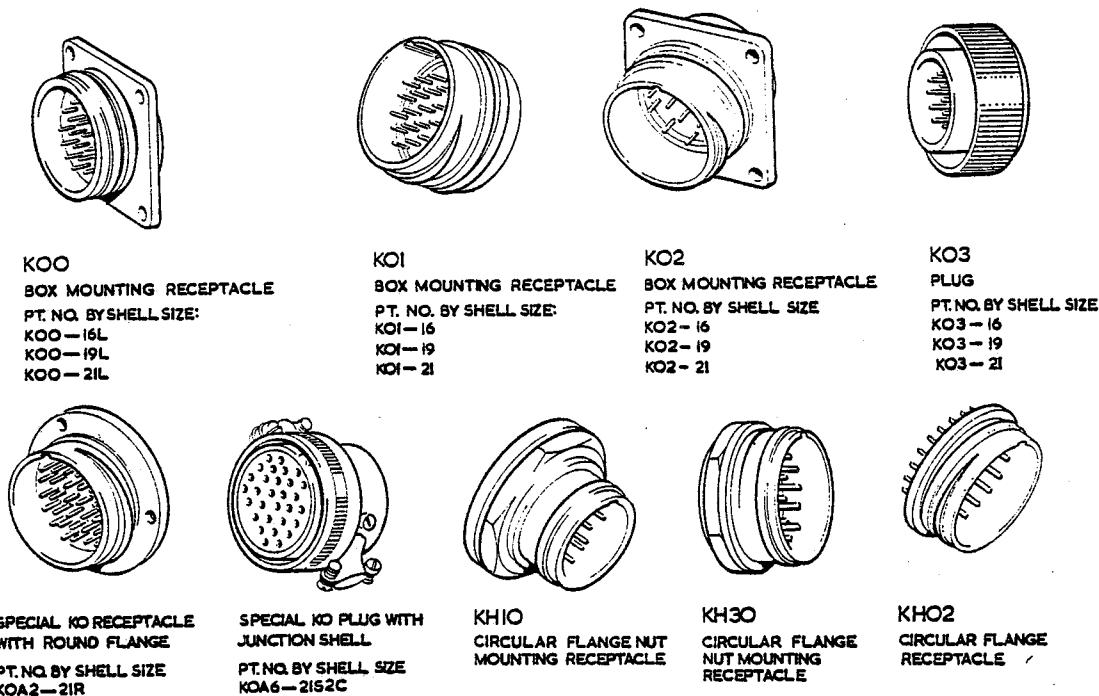

Fig. 3. Shell styles
5. The KO series connector shell styles are given in fig.3. Interminateability between the shell styles is given in Table 2. The KO series of connectors are intermateable with the KM and KM Mk. 2 series connectors Chapter 1-3 and 1-4 of this A.P. Special shells are required for certain contact arrangements in shell size 21. Reference should be made to fig. 2 and para. 2.